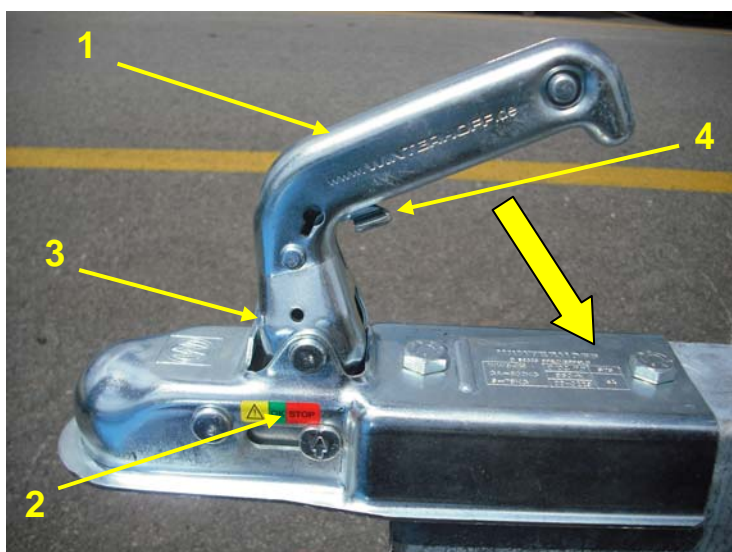

Figure 11 : Ball hitch
- 2 Ensure that the coupling head is open: coupling handle pointing up (figure 11 no.1) and marking (2) at "STOP".
- 3 Fit the open coupling head on the hitching joint. Press the coupling handle downwards in the direction of the arrow (figure 11)
5 The column can be oriented according to requirements. The column can be rotated 360° : block it by using the screw (fig.11 no.3).